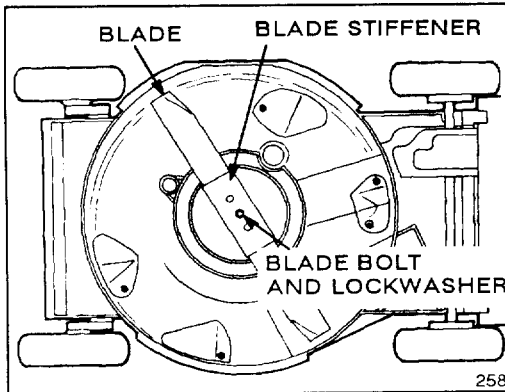

Figure 28
3. Tip mower on its right side (Fig. 28). Avoid rotating blade because starting problems may result.
5. REMOVING BLADE—Grasp end of blade using a rag or thickly padded glove. Remove blade bolt, lockwasher, blade stiffener and blade (Fig. 28).